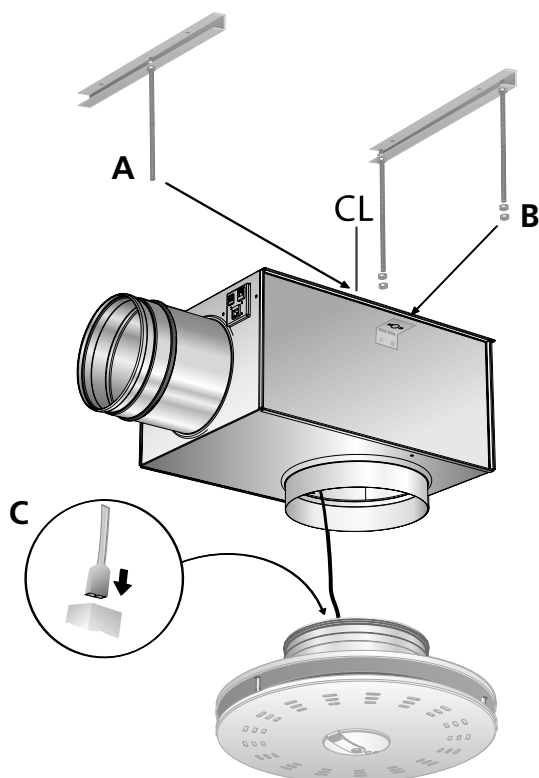

Figure 2. ADAPT Extract, installation.
1. The commissioning box can be suspended from a ceiling and connected to a duct system. Use hanger system (A) or (B), see figure 2.
3. Connect the air diffuser connector into the top of the diffuser (C, figure 2) and attach the safety cord. Give the S-shaped hook a squeeze so it can't loosen.